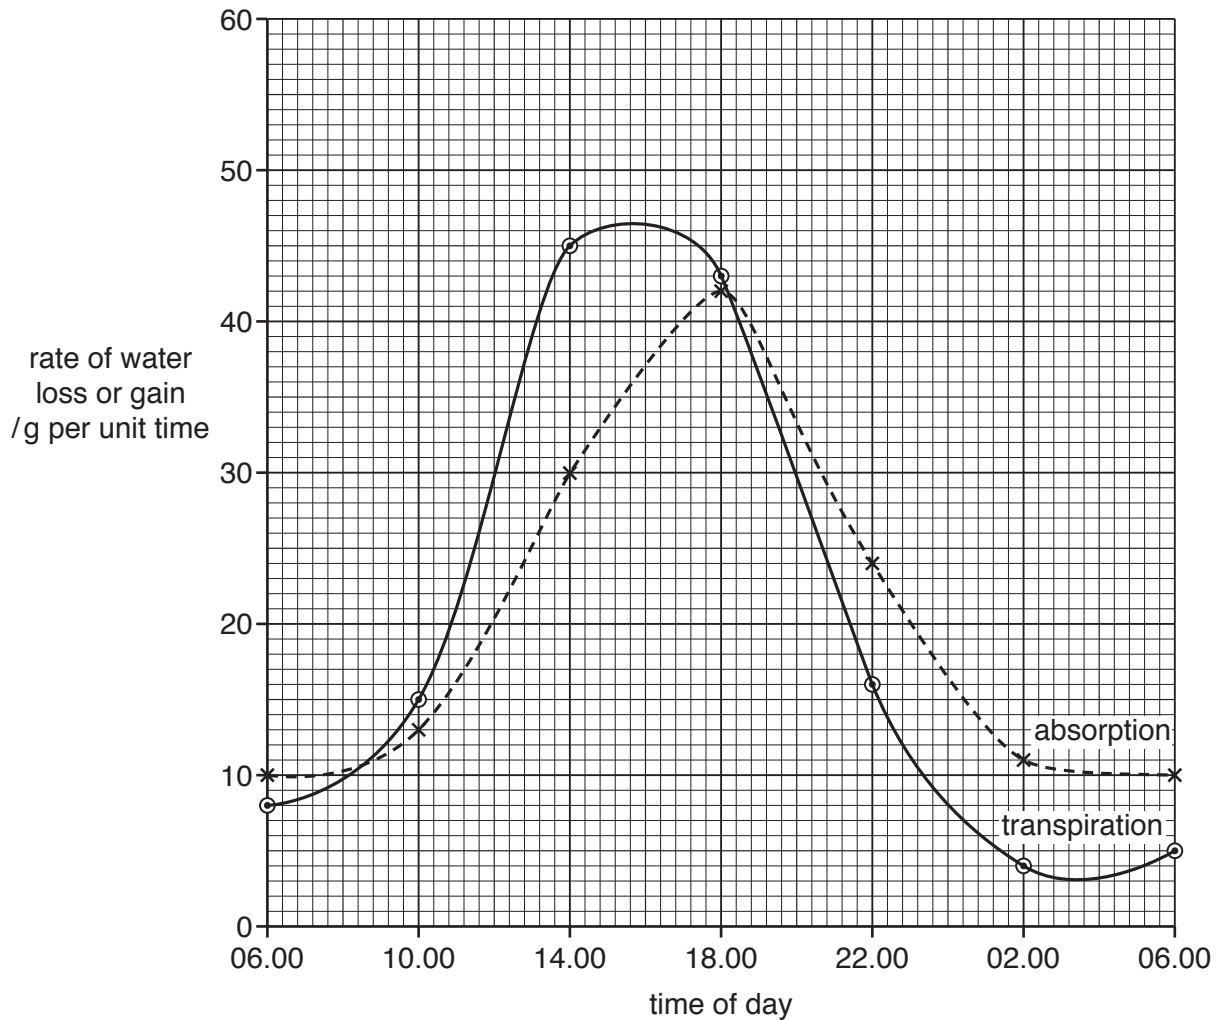

Fig. 2.2
- (c) Fig. 2.2 shows the rate of water gain by absorption and the rate of water loss by transpiration in a plant during a 24-hour period on a hot sunny day.
Compare the trends shown in Fig. 2.2 for absorption and transpiration of water during the 24-hour period.